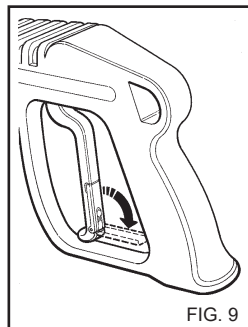

FIG. 9
- When the water cleaner is not used, close the safety device on the handle. (fig.9)